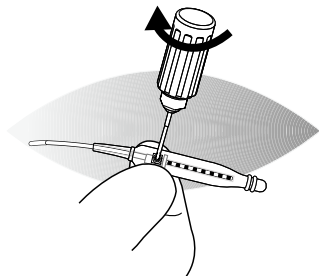

Figure 6. Tightening the lead cap setscrew.
- Tighten the setscrew onto the setscrew fixation ring by turning the torque wrench clockwise (Figure 6).